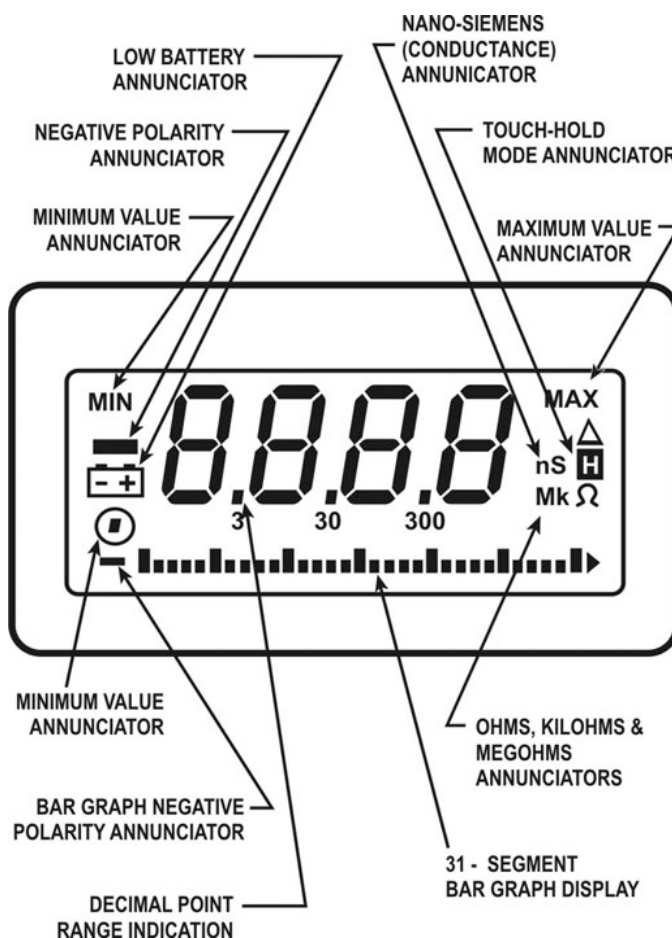

Figure 1-3. FLUKE 8025B Multimeter display.
The meter powers up in the auto-range mode. In auto-range, the meter automatically selects the appropriate range for the measurement being taken. The decimal point position and range indicator in the display and in the ohms function indicates the operating range by the presence of the megohm (M) or kilohm (k) enunciators (fig. 1-3).